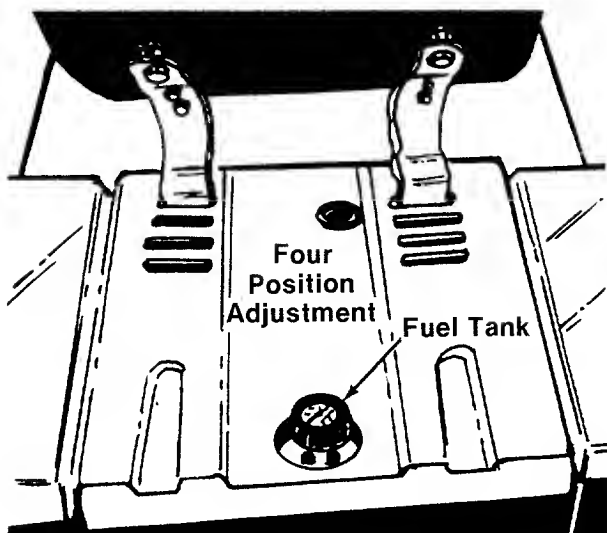

FIGURE 4A.—Model 842
The seat can be adjusted to four positions. With the seat tipped forward, hook the front of the seat spring into the slots on the tractor frame. Allow the seat to pivot backwards until it rests on the rear of the springs. See figure 4A.
**Model 842**—The tractor seat is adjustable to four positions. To change positions, tip the seat all the way forward and lift it out of the slots on each side. Refer to figure 4A.